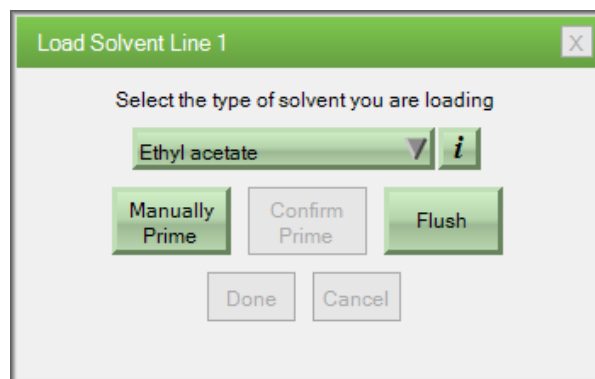
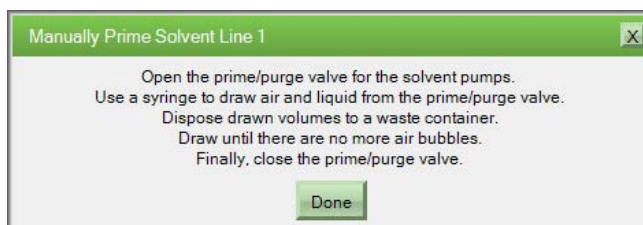

Figure 4-4: Load Solvent Line 1 Dialog Box after a Solvent has been Selected
Figure 4-5: Manually Prime Solvent Line 1 Dialog Box
4. Select the desired solvent. The solvent name will be indicated in the green box and the *Manually Prime* and *Flush* buttons will be activated (Figure 4-4).
5. Press the *Manually Prime* button. The display will present the dialog box shown in Figure 4-5.
- Withdraw solvent from the bottle using the syringe until no air bubbles are seen coming from the system. This will typically require the withdrawal of approximately 60 mL, but will depend on the nature of the solvent. After you have primed the system, press *Done* (Figure 4-5). The system will present Figure 4-4 again with the *Done* and *Cancel* buttons activated.